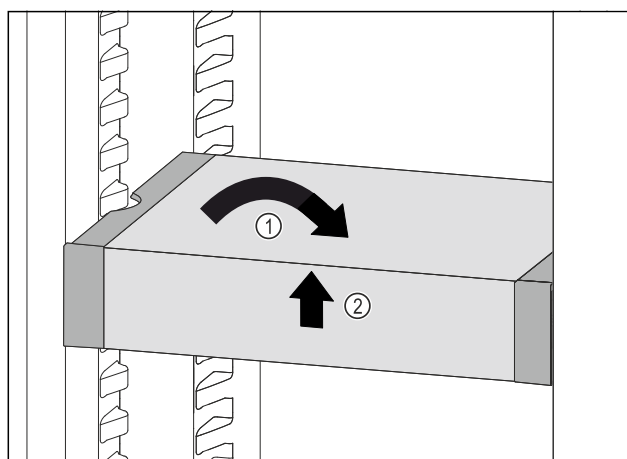

Fig. 122
- Set VarioSafe straight. Fig. 122 (1)
- Lift VarioSafe at the front. Fig. 122 (2)